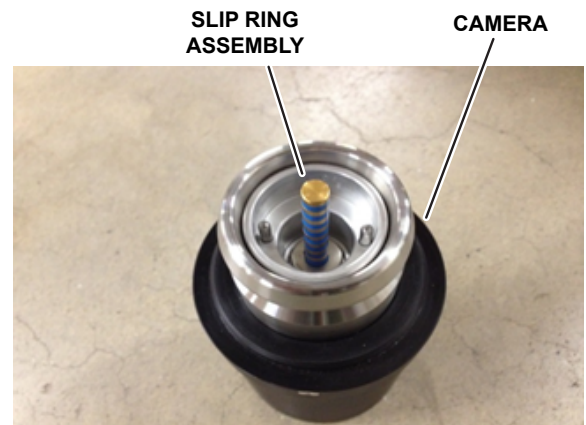

Figure 3. Slip Ring Assembly
- Check the alignment of the slip ring assembly (Figure 3). The slip ring should be straight and should not lean in one direction.